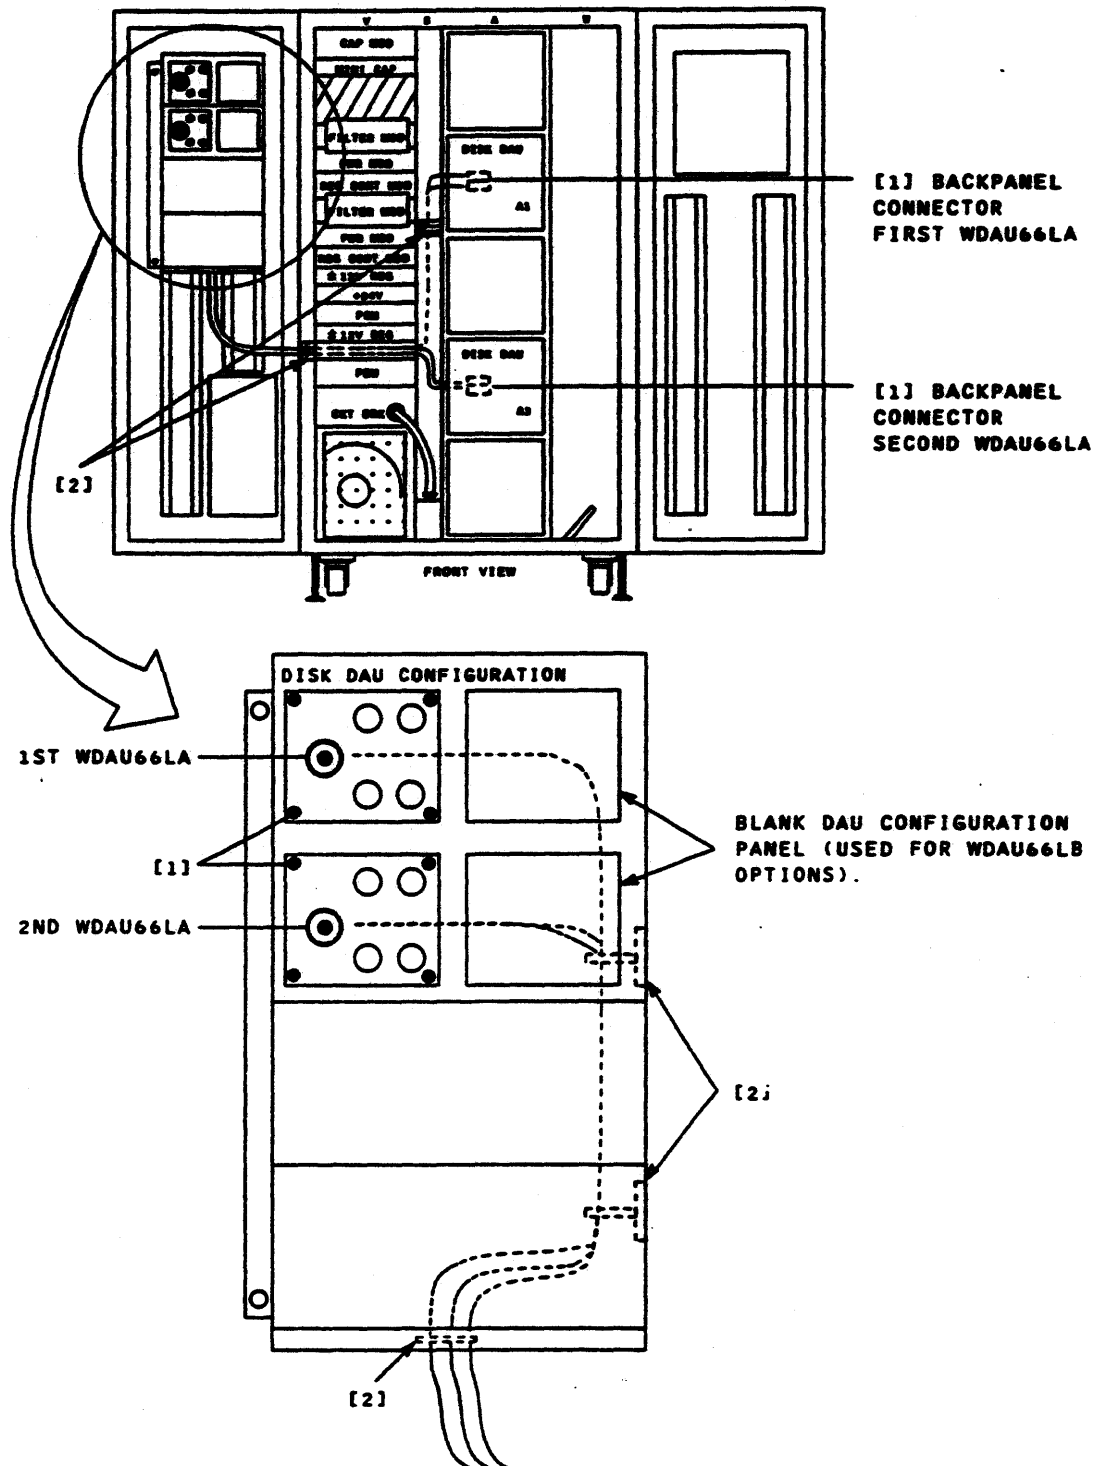

FIGURE 2.30-1. CONFIGURATION PANELS REMOVAL/INSTALLATION
5. Disconnect panel's wire harness connector plugs (Figure 2.30-1, [1])..
6. Remove cable ties which secure the configuration panel harness (Figure 2.30-1 [2]).